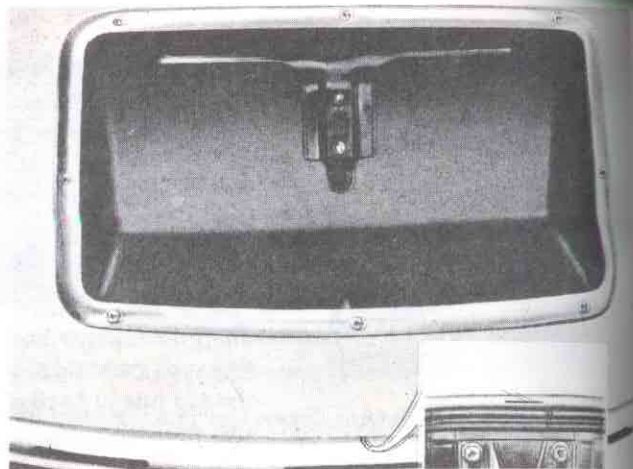

Fig. 47—License Plate Compartment
The license plate is housed at the rear in a compartment within the luggage compartment lid (fig. 47). Access to this plate is gained by removing the screws securing the chrome bezel to the license plate opening and removing the chrome bezel and plastic cover from the opening.
4. Clean out sealing compound in drain slot at lower edge of lid flange (inset, fig. 47). This will permit water trapped in the license plate compartment to drain out between inner and outer panels of the lid.